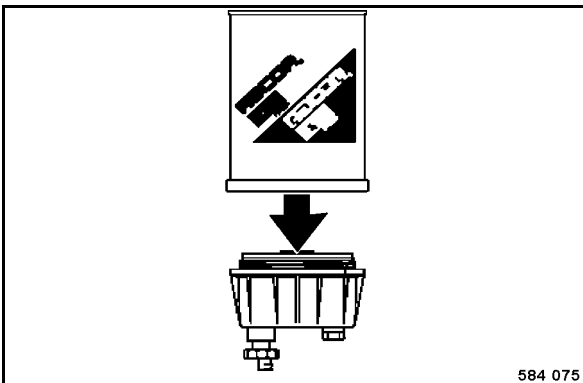

Fig. 148
- Unscrew the water separator from the filter cartridge (Fig. 148).